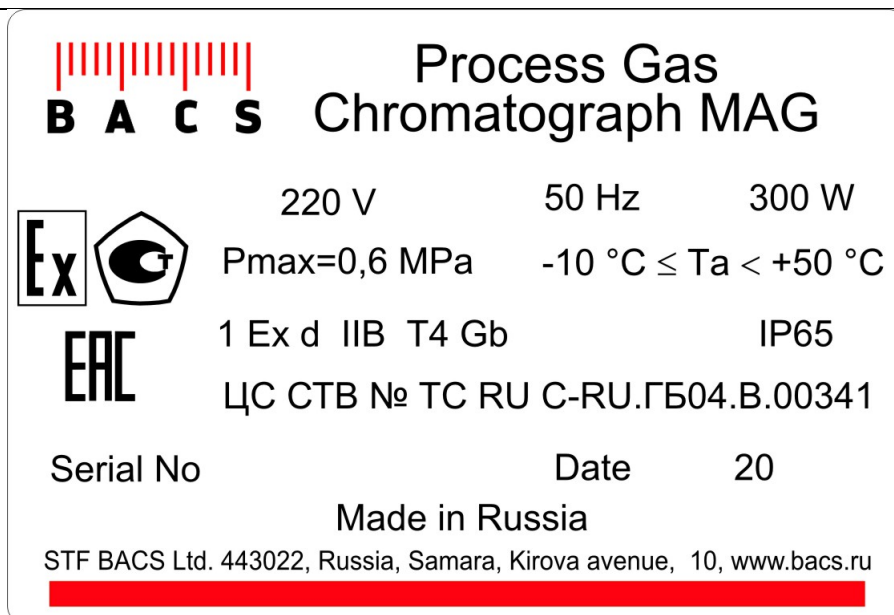

Fig. 15. Chromatograph MAG marking plate
1.8.1. On the plate installed at the chromatograph (Fig. 15), the following should be indicated: